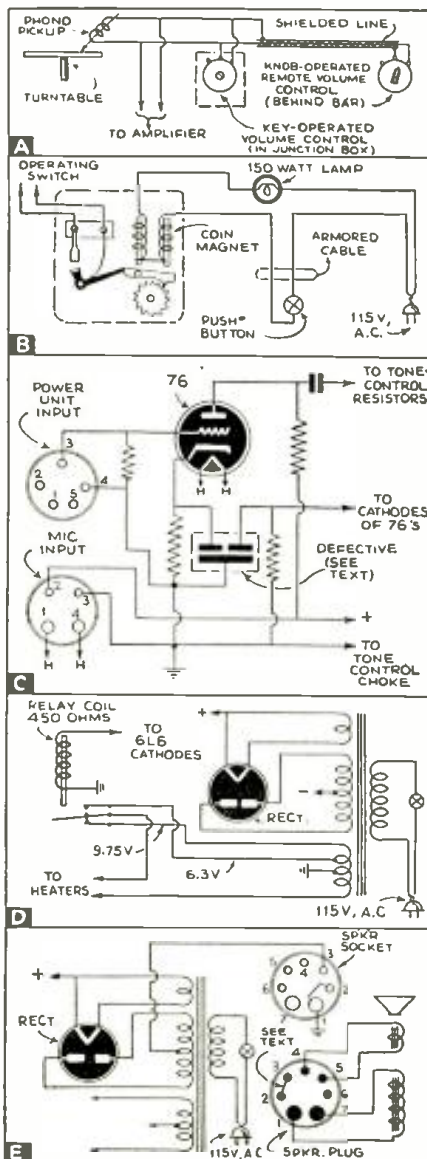

Fig. 1
Fig. 1. New circuit features of (A) Philco Models 39-117, 39-118, 39-119; (B) Stromberg-Carlson Models 340 and 341; (C) General Electric Models H-73, H-77, H-78, H-79.